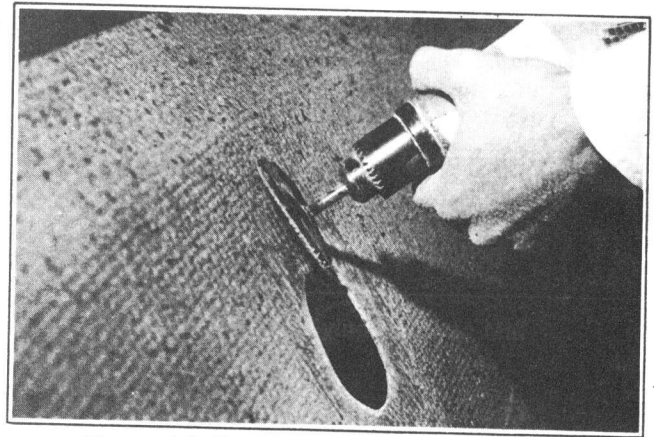

Figure 4-8. Rough Sanding Inside Surface
3. Rough sand the inside surface, using 80 grit dry sandpaper, feathering back about two inches all around the hole in the area the patch will touch. See Figure 4-8.